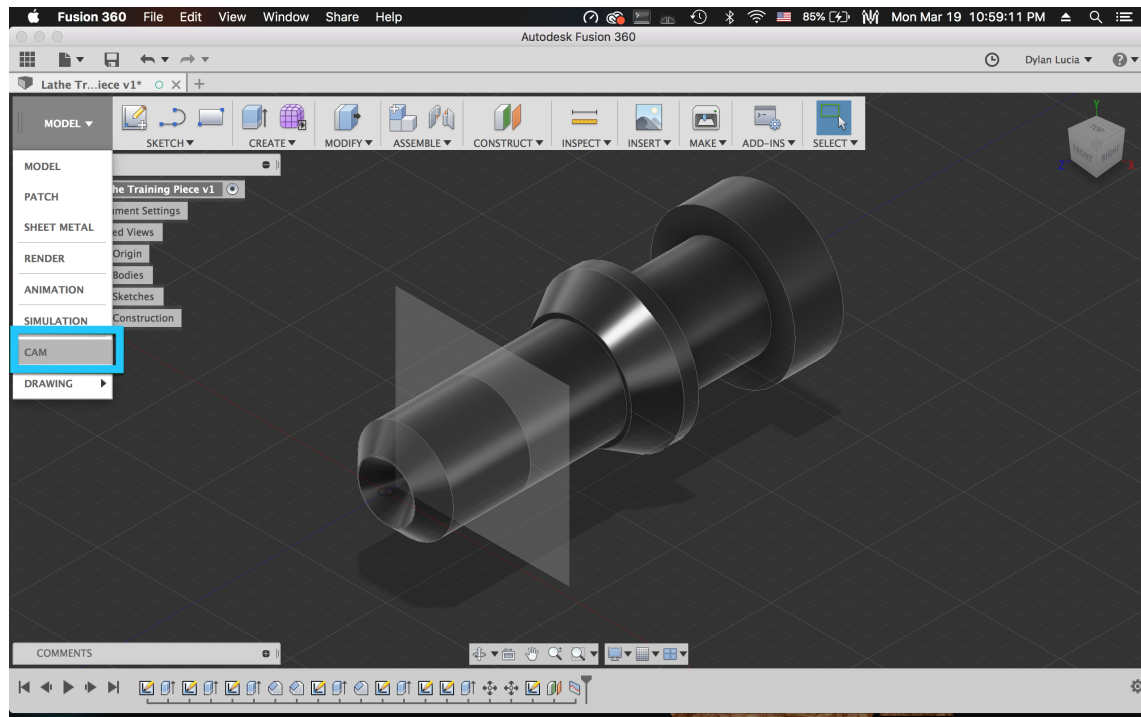

FIGURE 1.6: THE TRAINING PART IN THE FUSION WINDOW.
- Open up the part file you uploaded to your project folder by double-clicking on it. It should look like Figure 1.6. Orbit around and inspect the part, getting to know it.
- To change our Workspace from Model to CAM, click **MODEL ▼** in the **Ribbon**, which opens up the workspace selector, and select **CAM**, shown in Figure 1.6. The biggest change you may notice is that the Ribbon at the top of the environment has changed to a different toolset.